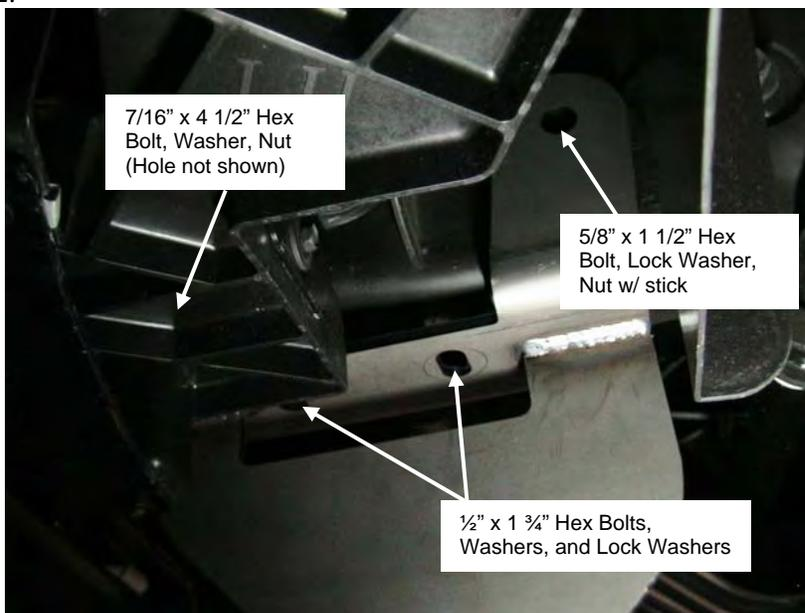

Figure 2 Placement of the Frame Bracket (Driver Side Outboard Shown)
2. Install the bottom bracket on the passenger side frame using the 7/16" x 4 1/2" bolt and 7/16" lock washer and nut provided in kit. The bracket uses the same hole as the long bolt from the tow loop. Repeat for driver side frame. (See figure 2.)
3. Install a $\frac{1}{2}$ " x $1\frac{3}{4}$ " bolt in the bottom holes of each lower bracket. Use a $\frac{1}{2}$ " flat washer and $\frac{1}{2}$ " lock washer with each bolt. See **figure 2**.